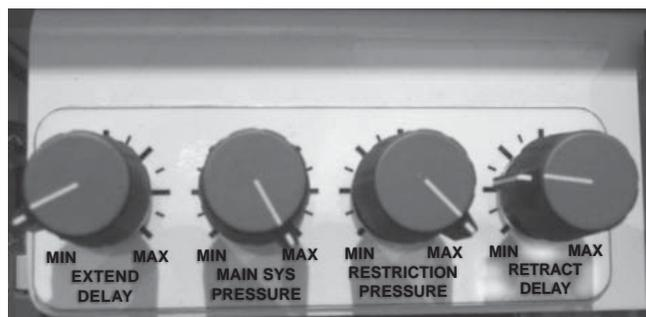

Figure 15 - Potentiometer
All pressure adjustment to the restriction rail system is to be done by the Min-Max pot. (see Potentiometer Figure 15)
The **Potentiometer** (see Figure 15) located in the control box has 4 adjustments; Extend Delay, Main System Pressure, Restriction Pressure and Retract Delay. The potentiometer can be set from Min to Max (Min being 75 psi and Max being 3000 psi). Pressure can be read on the restrictor rail pressure gauge (see Figure 13).
**Extend Delay** is set by the Extend Delay pot shown in Figure 15 (Min being 0 seconds and Max being 20 seconds). Extend Delay restrains the plunger from advancing according to the pot adjustment.
**Main System Pressure** is set by the Main System Pressure pot shown in Figure 15 (Min being 75 psi and Max being 3000 psi).
**Restriction Pressure** is set by the Restriction Pressure pot shown in Figure 15 (Min being 75 psi and Max being 3000 psi).
**Retract Delay** is set by the Retract Delay pot shown in Figure 15 (Min being 0 seconds and Max being 20 seconds). Retract Delay restrains the plunger from retracting according to the pot adjustment.